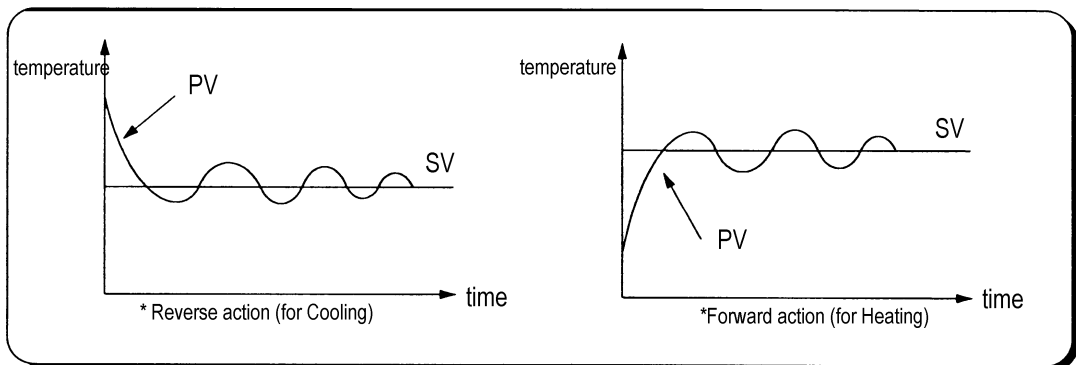

Fig. 2-10 PV of forward / reverse action
- 3) Fig 2.10 shows examples of process control by forward and reverse actions,
In general feedback control system shown as the Figure 2-10, the deviation value is obtained by the difference of PV and SV. P, I, and D operations are performed based on this deviation value. However, each of P, I, and D operations use different deviation values according to the characteristics of each control actions. The expression of PID control is as following;